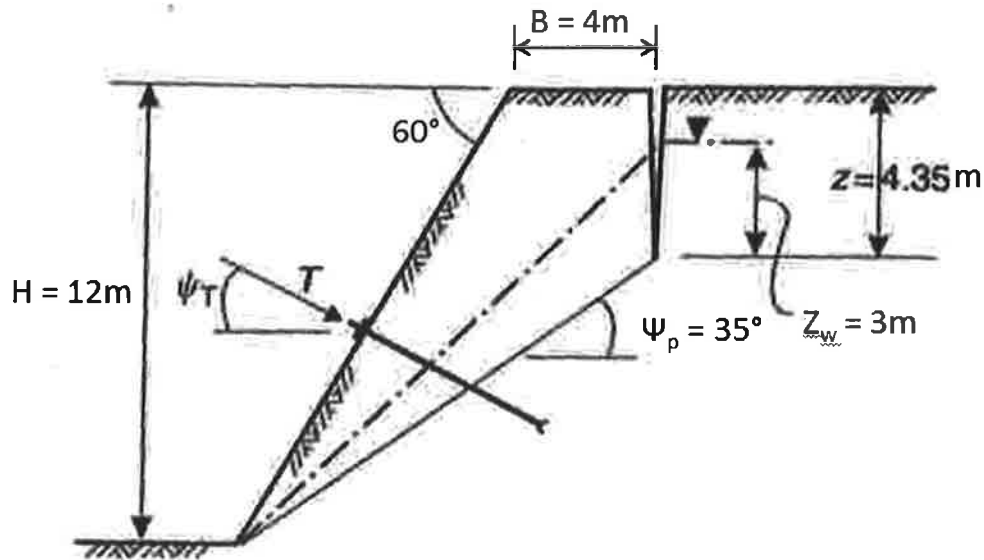

Figure 1: Plane failure geometry
A 12m high rock slope has been excavated at an angle of 60° . There is persistent foliation dipping at 35° into the excavation. A 4.35m deep tension crack has developed 4m behind the crest, and is filled with water to a height of 3m above the sliding surface (Figure 1). The strength parameters of the sliding surface have been determined as:
a.) Calculate and comment on the factor of safety (FoS) for the condition given in Figure 1.